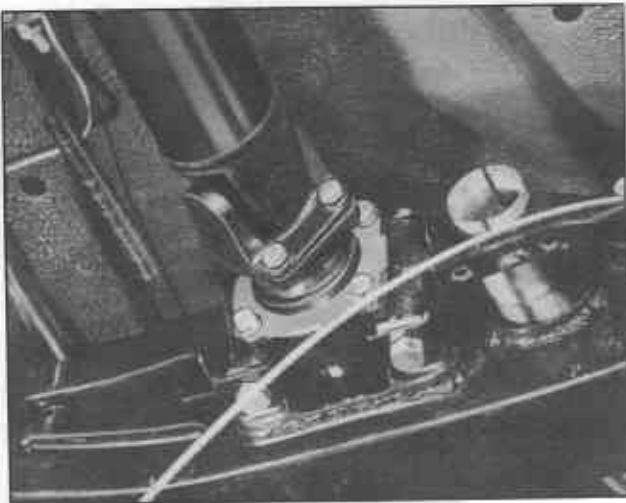

Fig. PD-2 Removing propeller shaft
3. Turn the exhaust center tube with pre-muffler to the left as shown in Figure PD-2 by loosening its both end clamps. This will allow the sufficient room for the propeller shaft to be removed. (Only for sedan)